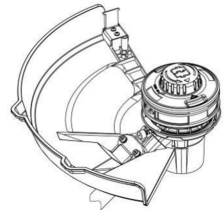

Fig. 5C
3. Lock the guard in place with the bolts (Fig. 5C).